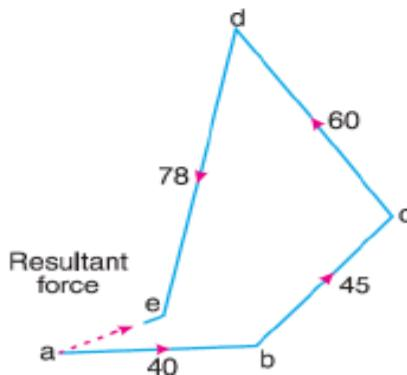

Fig. 1.4 Vector Diagram
- For graphical method draw the vector diagram with the above values, to some suitable scale, as shown in Fig. 1.4. The closing side of the polygon ae represents the resultant force. By measurement, we find that $ae = 23 \text{ kg-m}$.